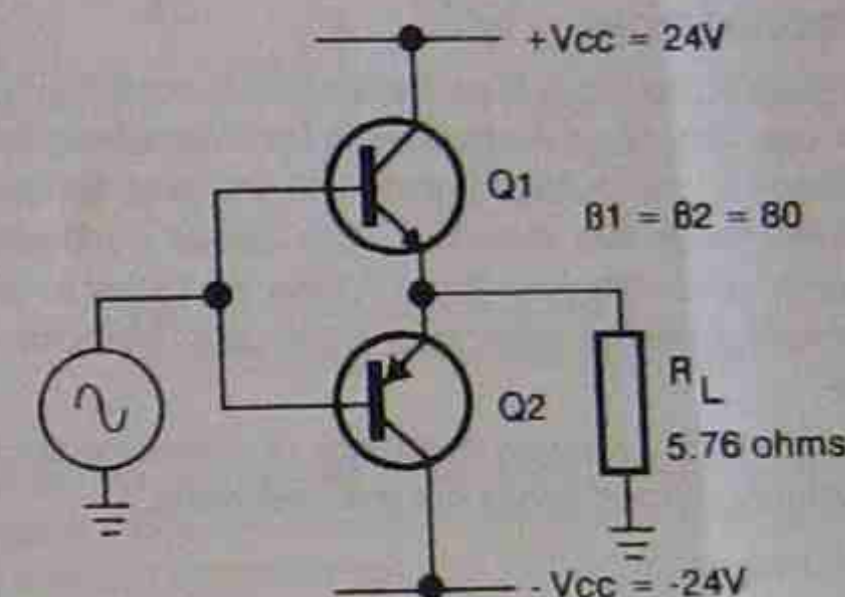

Fig.1
3. For the circuit of Fig. 1, calculate:
4. For the circuit of Fig.1: